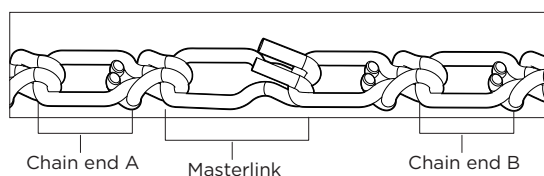

Figure 9
7. Attach the opposite end of the chain to the Masterlink as shown in **Figure 9**.